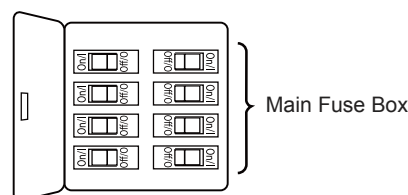

Figure 1
- ☐ 1. Remove the hanger ball portion from the downrod/hanger ball assembly by loosening the set screw in the hanger ball until the ball falls freely down the downrod. Remove the pin from the downrod, then remove the hanger ball. Retain the pin and hanger ball for reinstallation in Step 6. (Figure 1)
To avoid possible fire or shock, be sure electricity is turned off at the main fuse box before hanging. (Figure 1)
1. To set the code on receiver unit, slide dip switches to the same positions as set on the remote. (Figure 1)